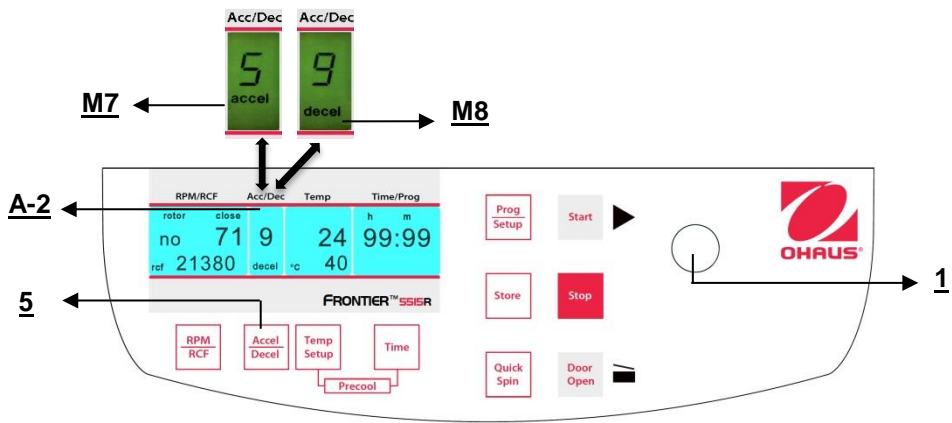

Figure. 18
This function is activated through the key "**Accel/Decel**" (5) (refer to figure18).